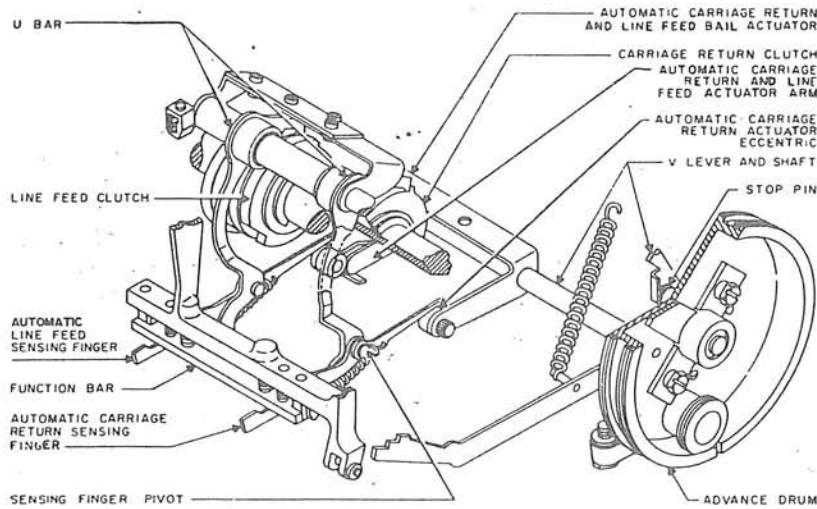

Figure 4-29. Automatic Carriage Return and Line Feed Linkage.
(1) **AUTOMATIC CARRIAGE RETURN AND LINE FEED.** (See Figure 4-29) - Automatic carriage return and line feed are provided at the end of any line if carriage return has not been signalled to the machine. Function fingers similar to the other function sensing fingers are provided for these two functions. However, these fingers do not actually sense the slide alignment but are spring loaded such that they tend to fall beneath the function bar regardless of the position of the slides. This action is prevented, however, by the automatic carriage return and line feed actuator assembly which is affixed to the V lever shaft. The actuator assembly and shaft are spring loaded against the automatic carriage return and line feed fingers in such a manner that the bias springs urging the fingers beneath the function bar are overcome. When the advance drum reaches the end of the line with no carriage return